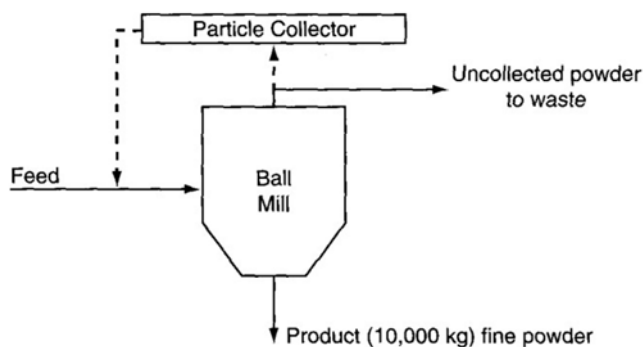

Figure SAT12.2P1
3. A ball mill grinds plastic to make a very fine powder. Look at Figure SAT12.2P1.